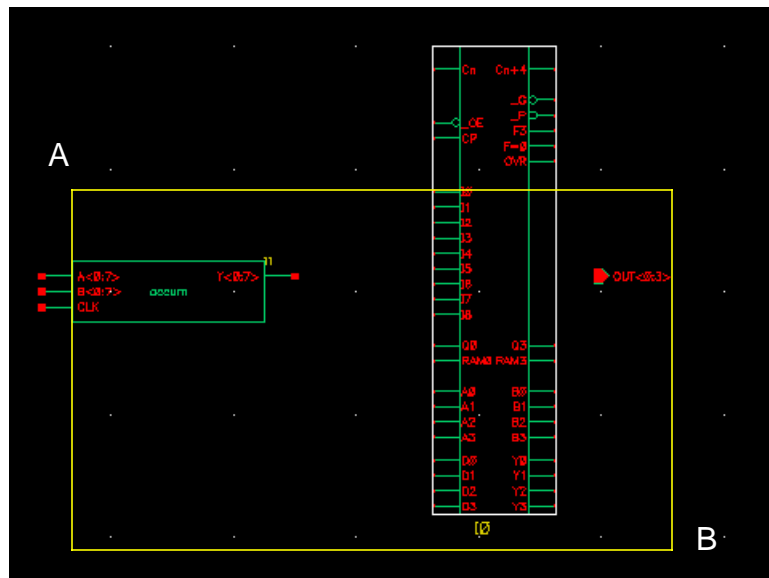

Figure 3-12 Zooming In Using the Z Key
1. Select *Window – Zoom – Zoom In* (or use the “Z” key zoom technique described Figure 3-12 on page 41) to connect the nets easier.